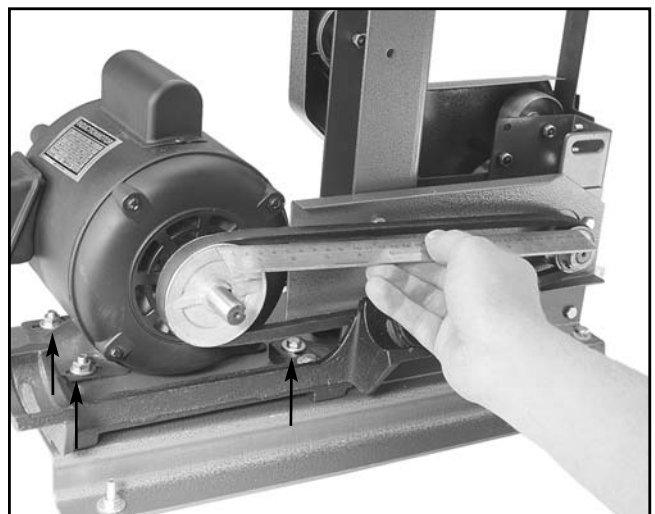

Figure 8. Inspecting pulley alignment.
7. Set a straightedge across the edge of both pulleys and adjust the position of the motor to correct the pulley alignment. The straight-edge should evenly touch each pulley when they are aligned. **See Figure 8.**